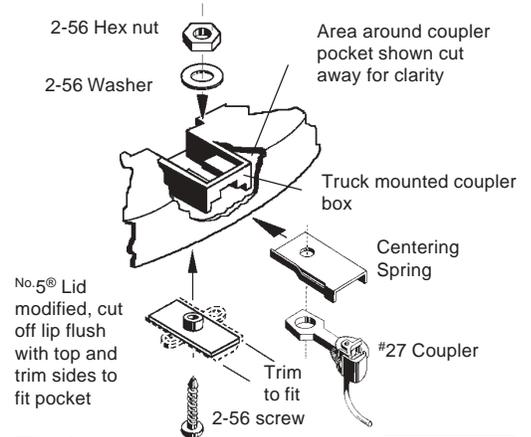

Fig.1
3. Modify coupler pockets on both trucks by removing the bottom center snap arm and the corner tabs on the bottom inboard end. Don't remove any part of the top of the coupler pocket. See Fig. 1.